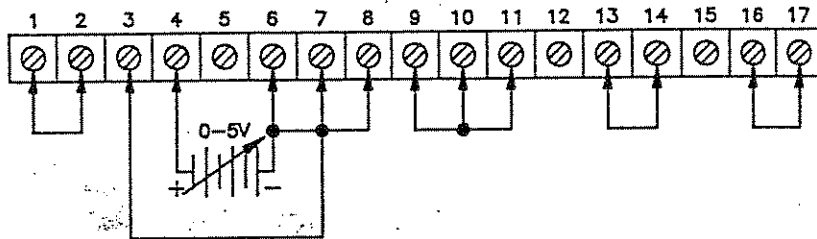

Figure 5. Remote Programming by External Voltage, Voltage Mode
3.3.5 REMOTE PROGRAMMING by EXTERNAL VOLTAGE (FIGURE 5 & 6)